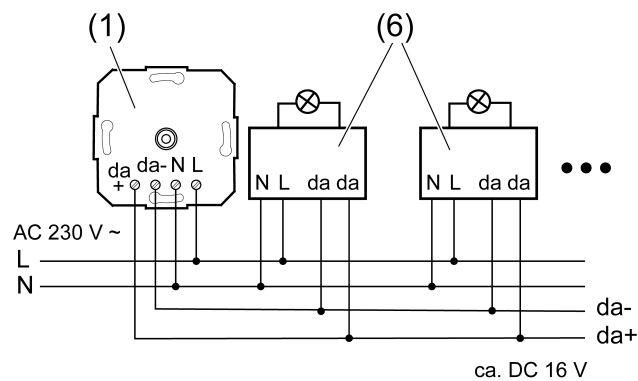
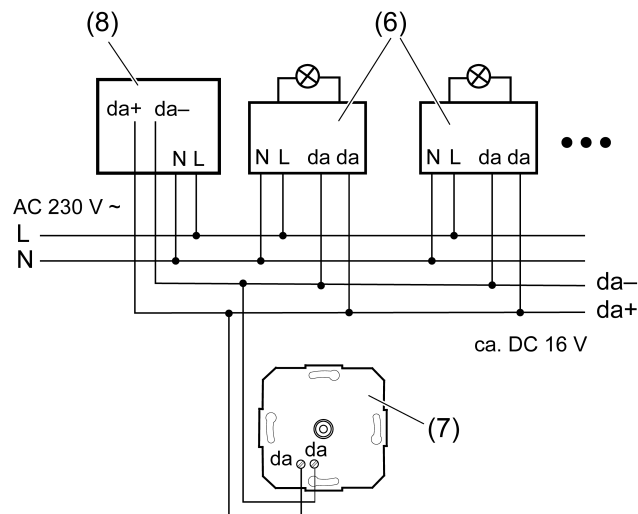
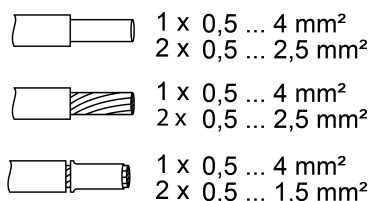

Figure 3: Power DALI rotary control device TW wiring plan
Figure 4: DALI rotary control device TW wiring plan
Figure 5: Clampable conductor cross-section
- Connect the DALI rotary control device, DALI power supply and DALI EVG as shown in the wiring examples (Figure 3) and (Figure 4). In doing so, note the details of the EVG manufacturer and the clampable conductor cross-section (Figure 5).